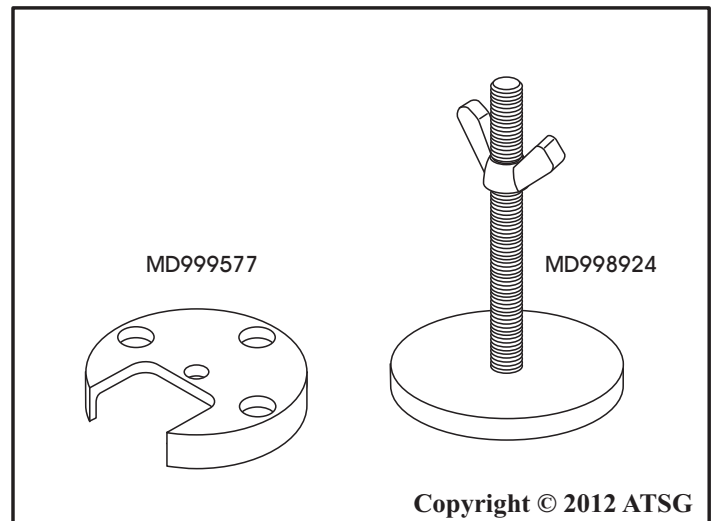

Figure 239
8. Compress the sprag race, retainer and return spring using special tools shown in Figure 239, and install snap ring.